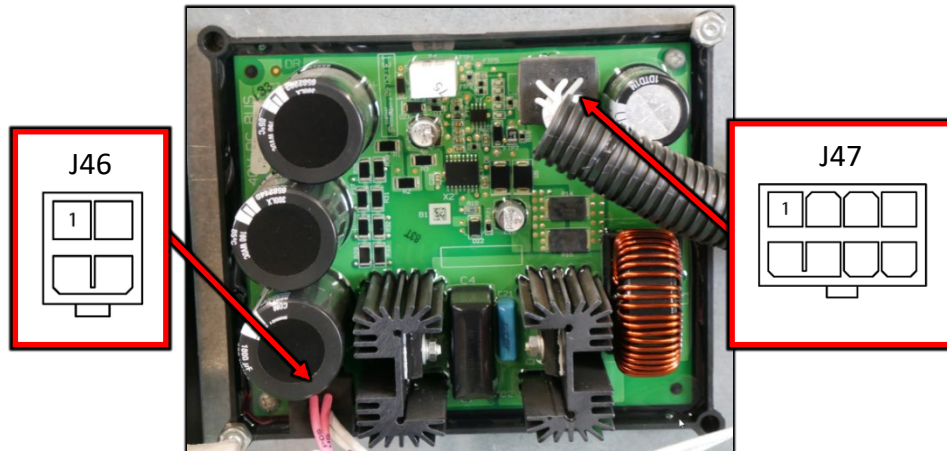

Figure F.2
- A.2. Perform the measurements identified in Test Table 1 below, refer to Figure F.2 for test point locations.